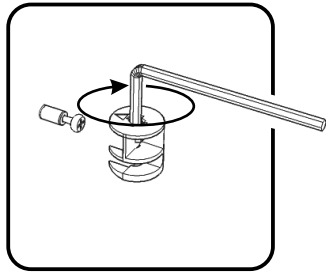

Figure 4
Attach Side Panels (B) and (C) to unit with Flat Washers, Spring Washers, Head Cap Bolts and Cam Locks. (See Figure 4)